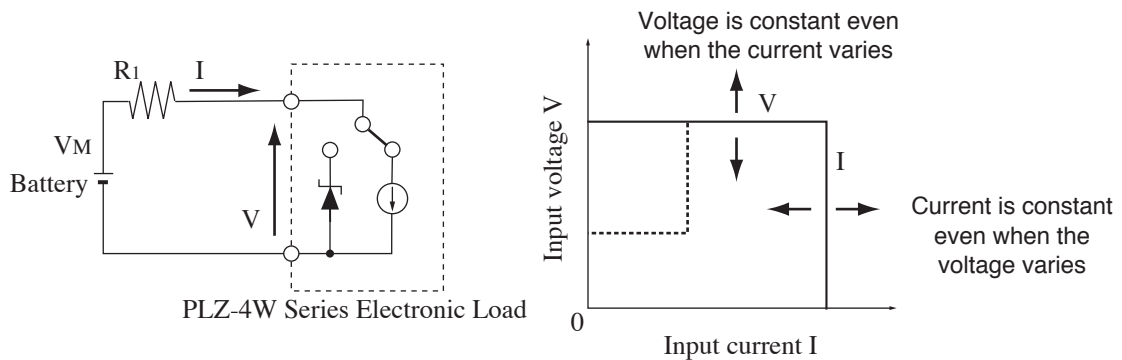

Fig. A-12 Equivalent circuit of the CC+CV mode and operation
When the PLZ-4W is used in CC+CV mode, the PLZ-4W operates as a constant current load and a constant voltage load (shunt regulator) as shown in Fig. A-12. When operating as a constant current load, the PLZ-4W sinks the specified current (I) independent of the output voltage of the constant-voltage power supply (V_M). When operating as a constant voltage load and V_M is greater than V , the input voltage V is kept constant even when the input current I varies. Current does not flow when V_M is less than or equal to V .
We will consider the case when checking the discharge characteristics of a battery of Fig. A-12.